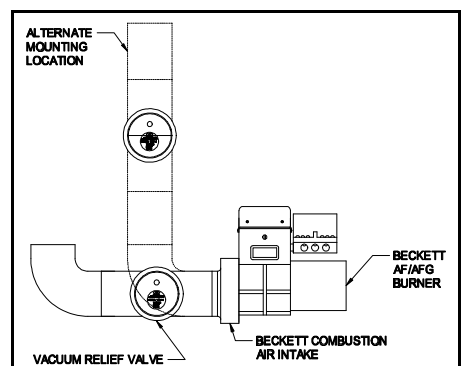

Figure 5
1. Mount VRV tee assembly or 90o elbow onto the combustion air intake inlet. Fasten using three (3) sheet metal screws on all joints. (See Figure 5)